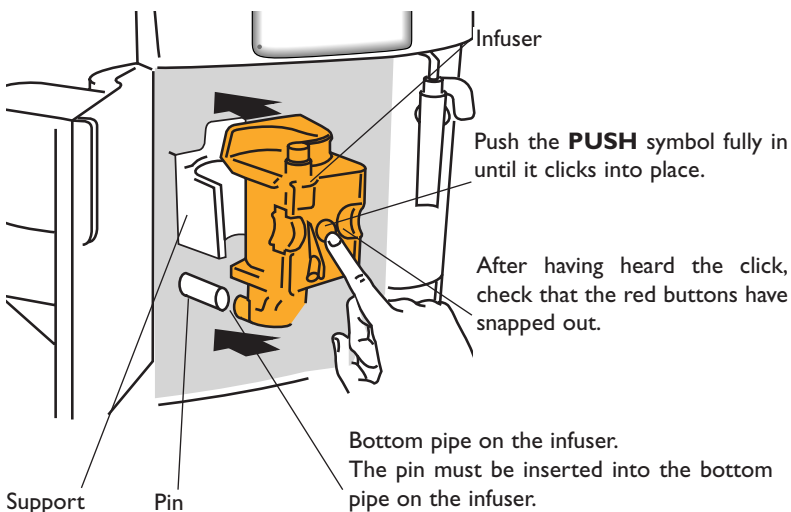

Fig. 29
- carefully clean the inside of the appliance. To remove the coffee stuck to the parts inside the appliance, scrape it with a plastic or wooden fork or similar (Fig. 29) and then pick up all the residues using a vacuum cleaner (Fig. 30);